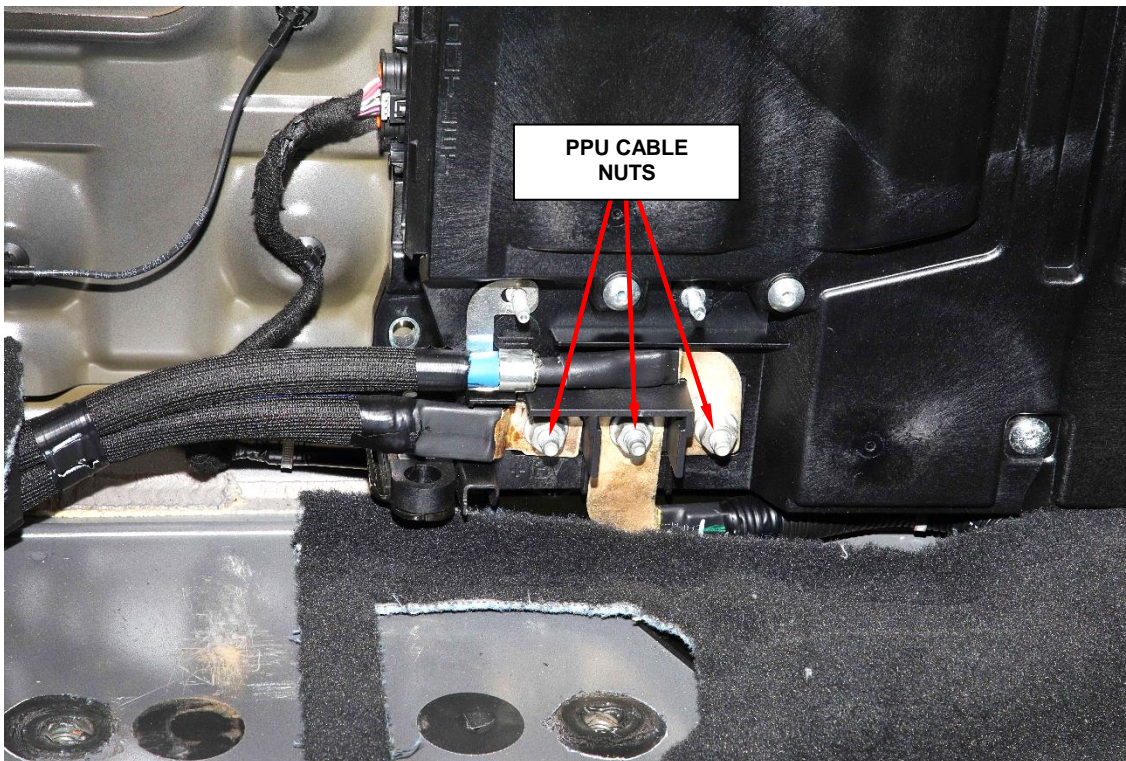

Figure 10 – PPU Connections
- Using a torque wrench tighten all the PPU cable nuts to 20 N·m (15ft. lbs.). (Figure 10).
11. Using a torque wrench tighten all the PPU cable nuts to 20 N·m (15ft. lbs.). (Figure 10).